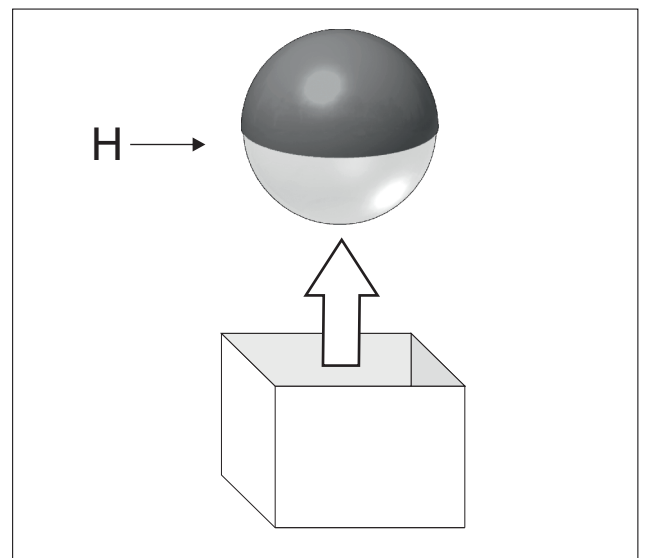

Figure 6
6 - Take the glass screen (H) out of its packaging. Figure 6.